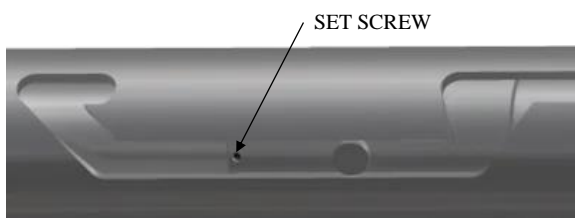

Fig. 6
- L-2.16) Rotate J-body (20) as needed to position J-pin of J-pin bottom sub (23) along J-slot to access threaded holes (Fig. 6). Screw set screws (28) into J-pin bottom sub (23).